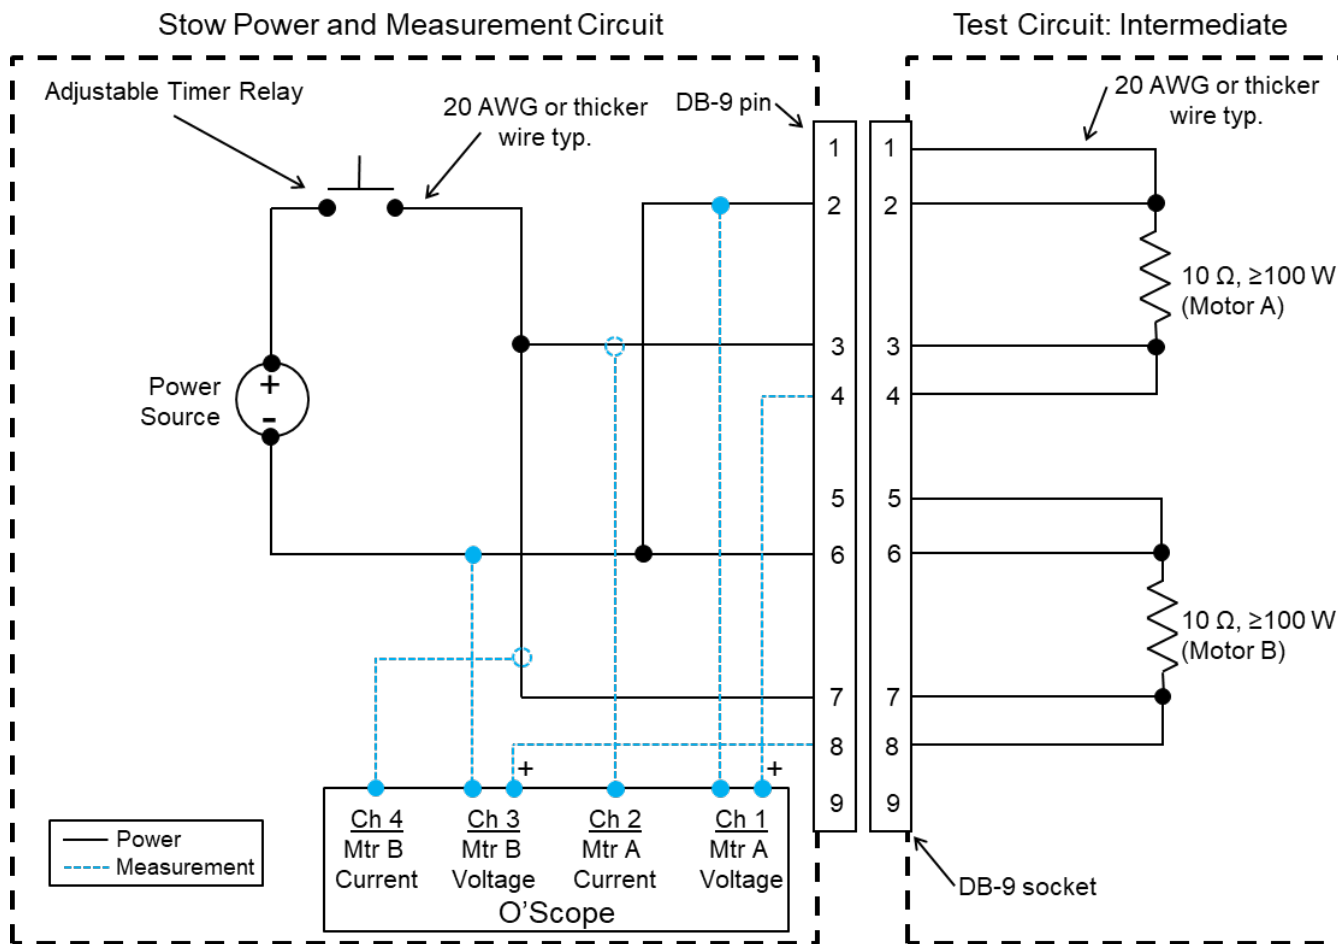

Figure 9-2: Stow test circuit #2
9.2.1	Set up the Test Circuit: Intermediate portion of Stow Test Circuit #2 per Figure 9-2 and connect to the Stow Power and Measurement Circuit .